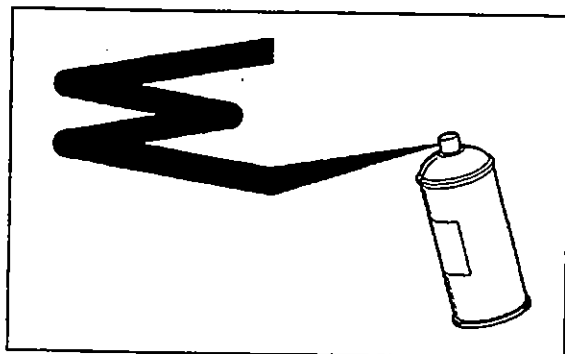

Figure 8
3. Apply the recommended repair paint, either aerosol or air spray gun, to the damaged area. The can or spray gun should be kept at a distance of 6 to 10" (150 to 250 mm) from the surface to be covered, with continuous side-to-side motion, sweeping across the damaged area. To ensure a good blend with existing paint, the sweeping motion should begin and end to the side of the area to be covered. Larger areas to be covered will require the back-and-forth sweeping motion to be gradually moved up and/or down, as shown in figure 8.